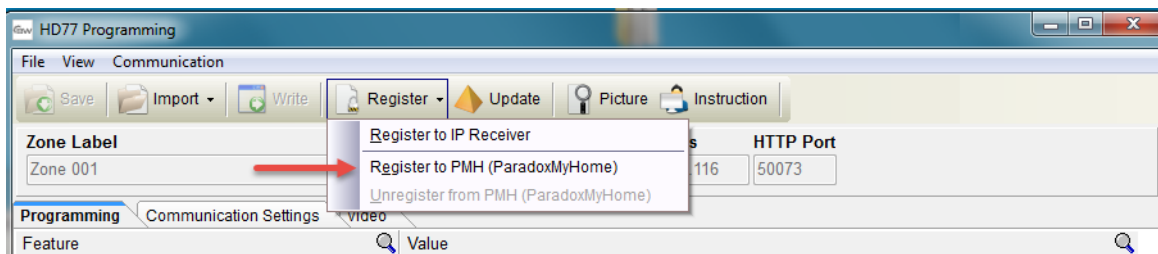

Figure 4.2 – Programming Window
- Select **Unregister from PMH (ParadoxMyHome)** from the Register drop down menu (see Figure 4.2 on page 42).